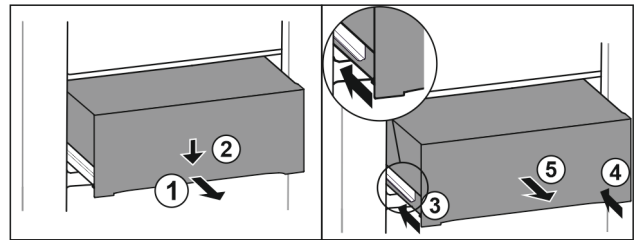

Fig. 97
- ▶ Pull out drawer half-way. *Fig. 97 (1)*
- ▶ Push the drawer down at the front. *Fig. 97 (2)*
- ▶ Push the left rail in by about 2 cm. *Fig. 97 (3)*
- ▶ Push the right rail in by about 2 cm. *Fig. 97 (4)*
- ▶ Remove drawer to the front. *Fig. 97 (5)*